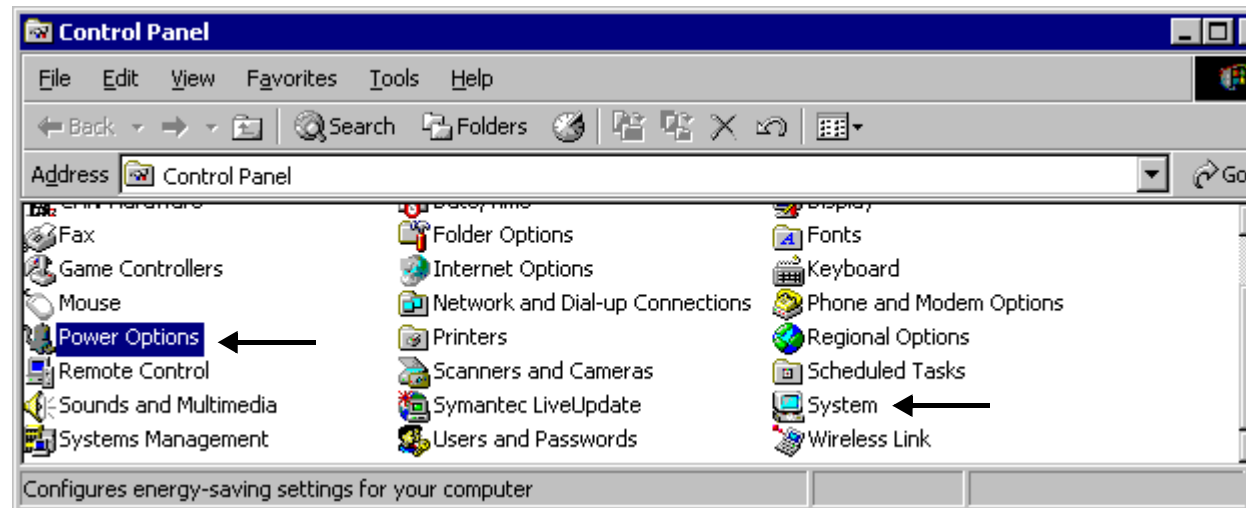

Figure 1 - 4: Windows Control Panel
- 7 Double-click the Power Options icon (Figure 1 - 4).
- 8 Click the Power Schemes tab on the Power Options Properties dialog box (see Figure 1 - 5). In the Setting for Portable/Laptop power scheme area, select **Never** for all settings under **Plugged in**. Do not run the CANpro with batteries as a power source.